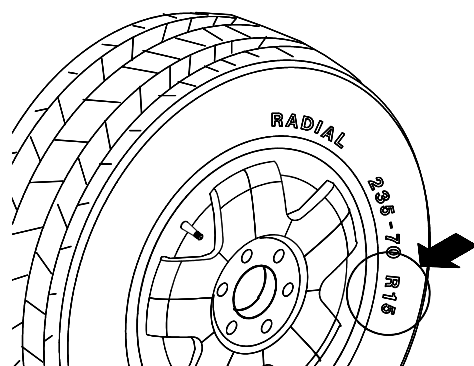

Figure 23
**4.5.2 Rim Diameter Entry** - Select the Manual Diameter button (#11 page 9). Read the rim diameter marked on the sidewall of the tire (Figure 23). Enter the measured rim diameter by pressing the **Diameter** button followed by the **UP** or **Down** arrow button until the desired value appears in the right display.